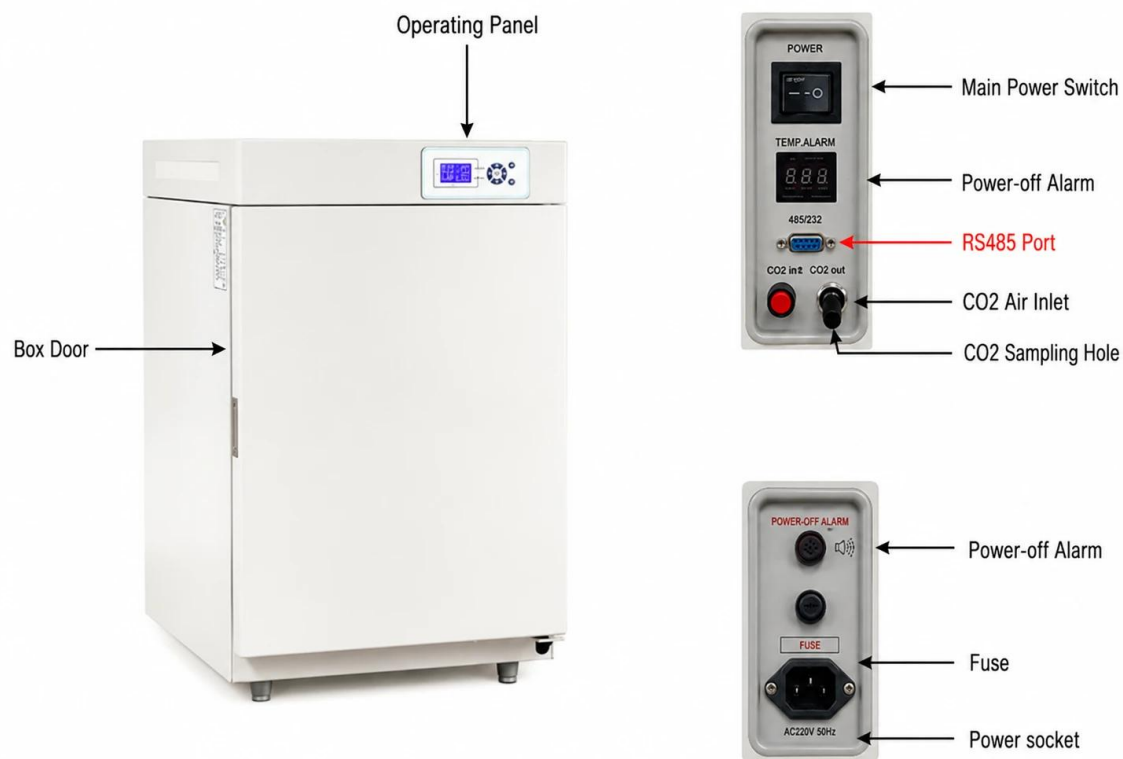

Figure 1
9) For the convenience of the user, one CO₂ sampling and monitoring port is set on the right of the CO₂ case (see Figure 1), which can be used to monitor the CO₂ density in operation. When the relative humidity exceeds 70%, between CO₂ sampling and monitoring port and the analyzer, it shall be necessary to insert the "dehumidifier" for ensuring the measurement accuracy.